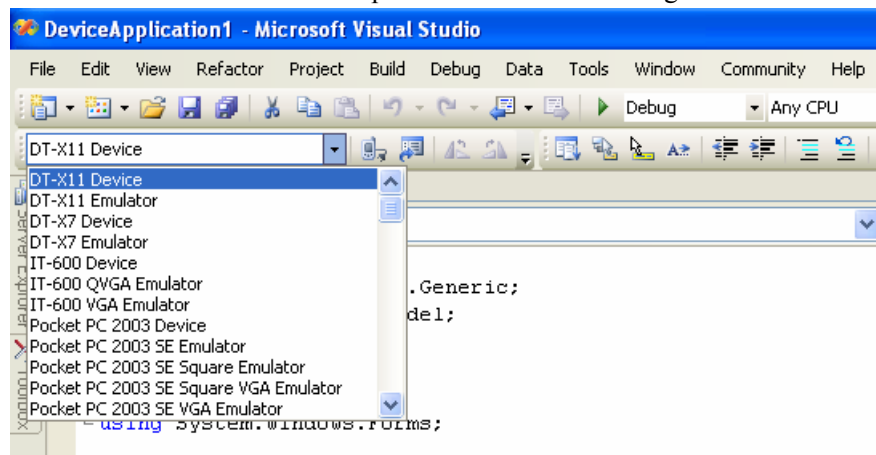

Figure 6.3
4. Choose **DT-X11 Device** in the pull-down menu box in Figure 6.3.